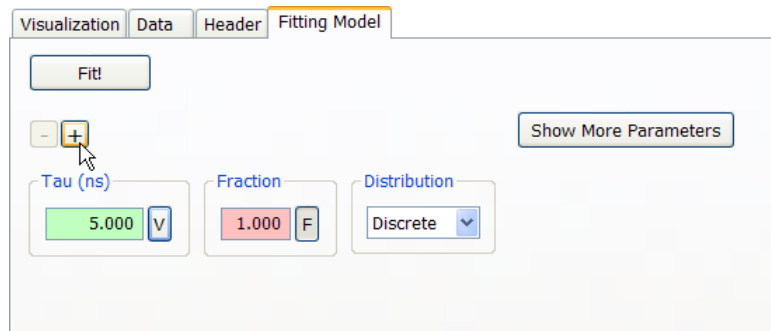
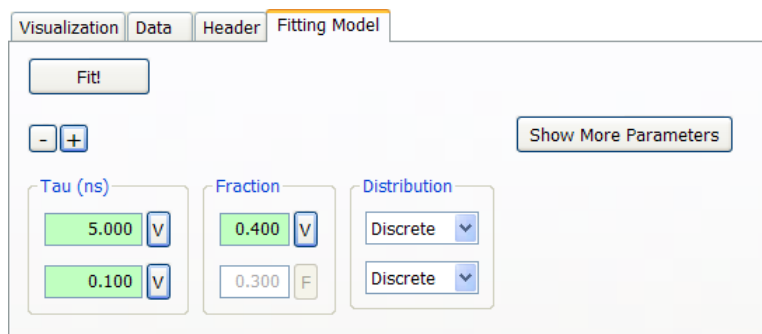

Figure 20.2 Adding a second component to the analysis.
Figure 20.3 Fitting page for a 2-component decay in Vinci Analysis.
- If the value of the χ^2 -function is not close to one, add a second component by clicking to the <+> button (see Figure 20.2). The page looks like the one displayed in Figure 20.3 below. Now, the two decay times are to be determined (the fields are in green) as well as one of the fractional distribution (the second component is $f_2 = 1 - f_1$). Click on the <Fit!> button and look at the value of the χ^2 -function as well as to the general trend of the residuals.